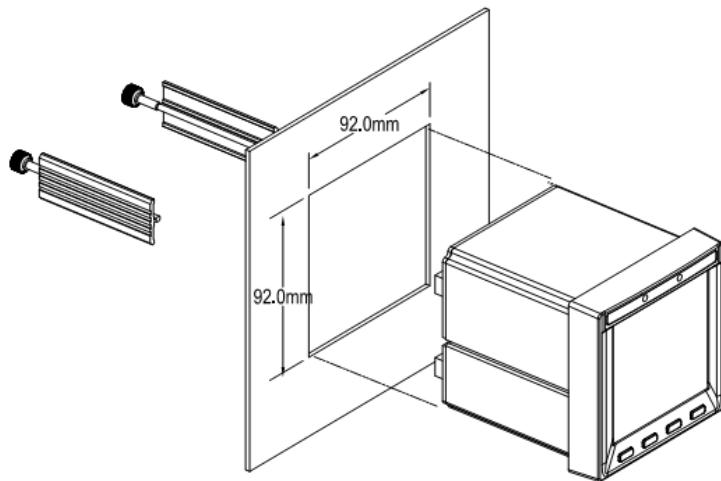

Figure 2-4 Panel Cutout
- Fit the meter through a 92mmx92mm cutout as shown in Figure 2-4